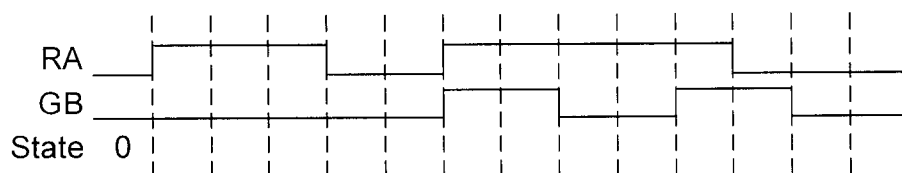

Figure 2.2
- (a) Complete the timing diagram of *Figure 2.2* by showing the sequence of states that the state machine follows and the waveform of the output signals L, GA and RB. You should also indicate on your timing diagram the clock edges on which DB changes. The vertical dashed lines in the figure denote CLOCK rising edges and the system is initially in state 0 as shown. [7]